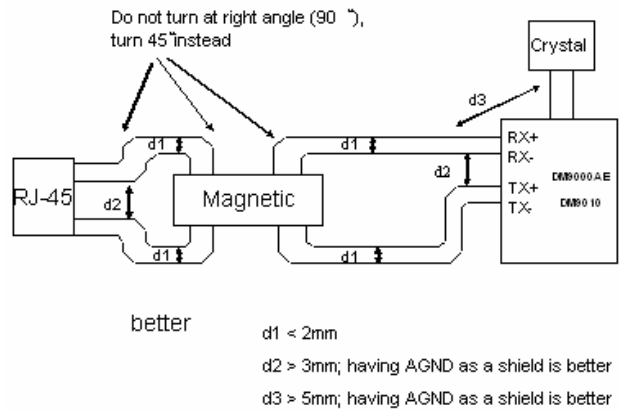
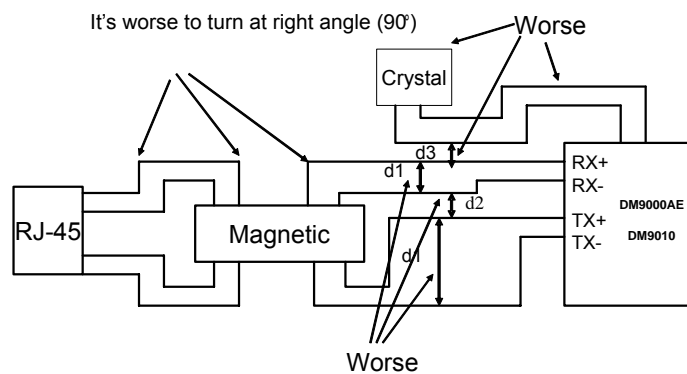

Fig.1-1 Better example for signal and trace routing
Fig.1-2 Worse example for signal and trace routing
- The network interface (see **Figure 1-1 and Figure 1-2**) does not route any digital signal between the DM9000B / 9010B RX± and TX± pairs to the RJ-45. Keep the two pairs away from all the other active signals and the chassis ground.
- Any terminated pins of the RJ-45 connector and the magnetic (see **Figure 1-1 and Figure 1-2**) should be tied as closely as possible to the chassis ground through a resistor divider network 75Ω resistors (no more than 2mm to the magnetic) and a 0.01μF/2KV bypass capacitor.